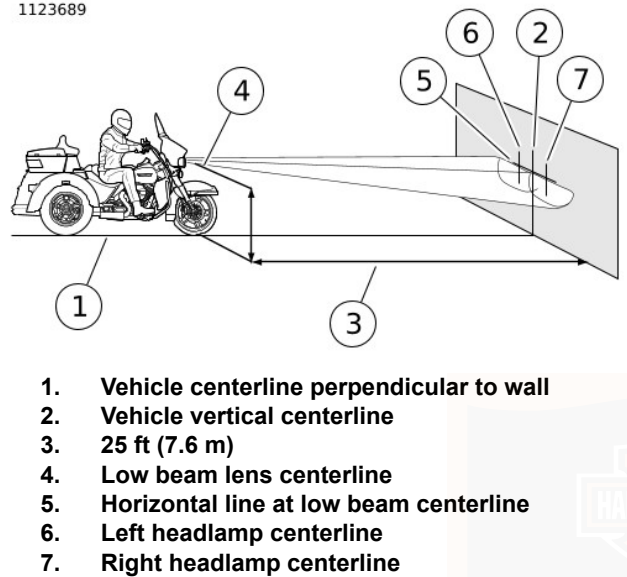

Figure 97. Headlamp Alignment: Dual LED
See Figure 97. Park the motorcycle on a line (1) perpendicular to the wall.